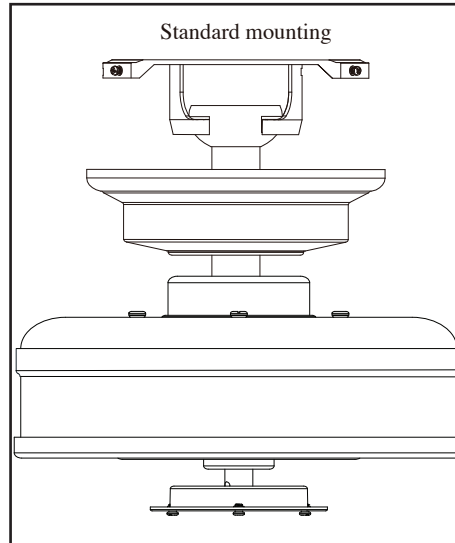

Figure 9
4. Carefully lift the fan assembly up to the ceiling mounting bracket. Make sure the tab on the mounting bracket is properly seated in the groove in the hanger ball. (Figure 9)